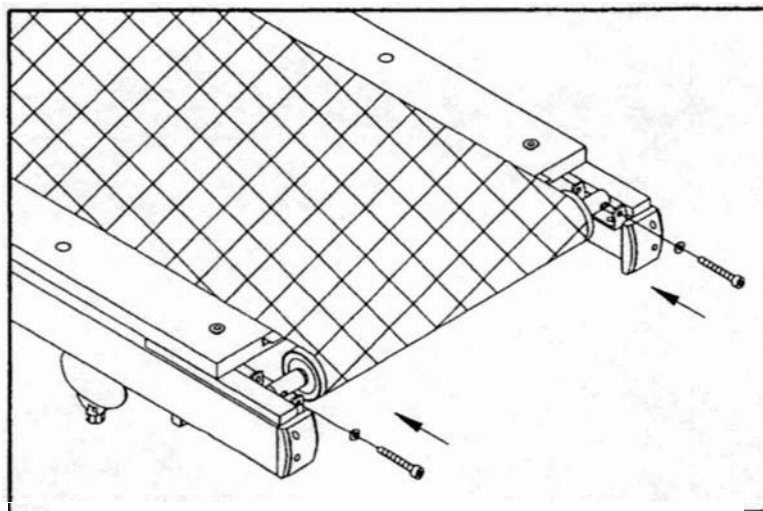

Fig.6
2. Secure the rear roller with two screws. (see Fig. 6)